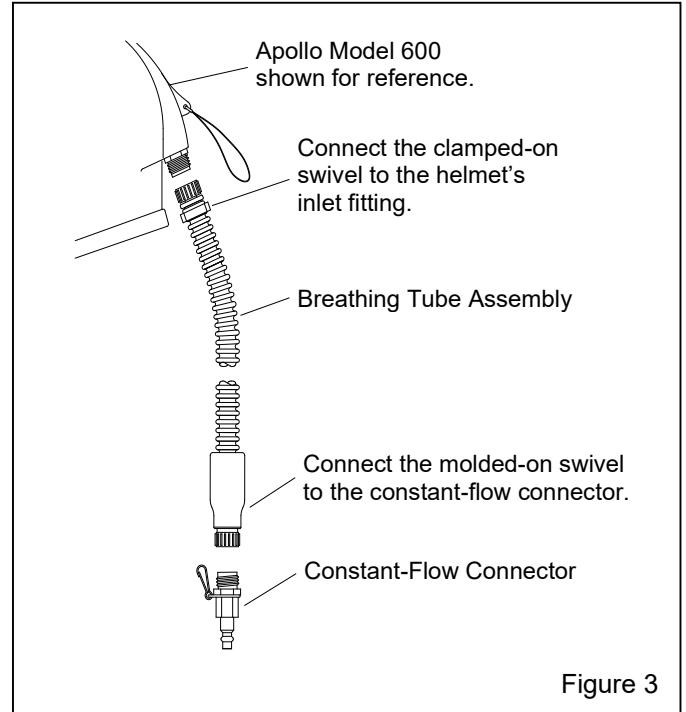

Figure 3
3.3.1 The breathing tube has a clamped-on end and a molded-on end. Attach the clamped-on end to the threaded air-inlet fitting at the back of the helmet, as shown in Figure 3. Do not overtighten the connector; hand-tight is sufficient.